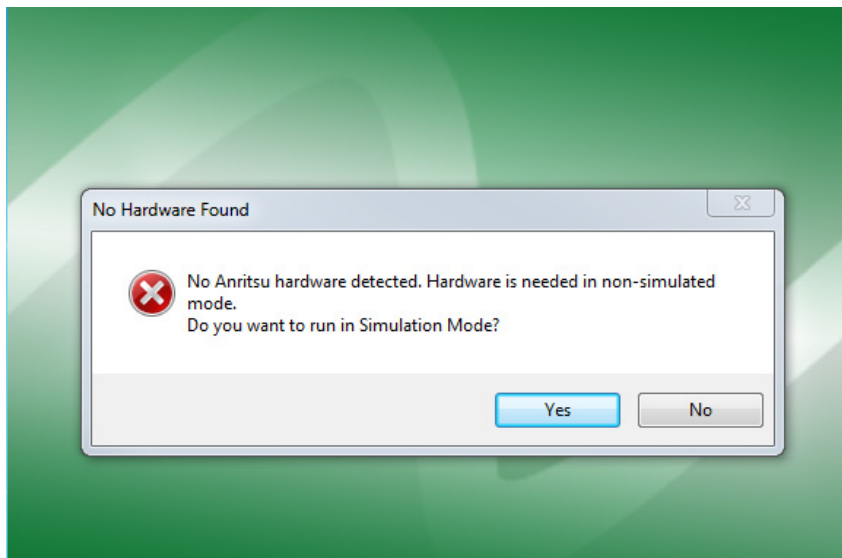

Figure 3-7. ShockLine GUI Initialization Screen
2. From the NO HARDWARE FOUND dialog box, Figure 3-7, select YES to run in Simulation Mode.